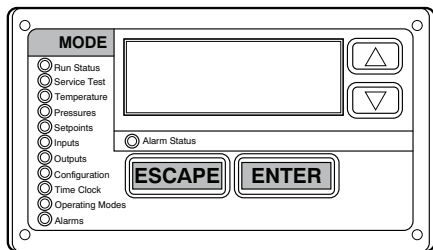

Fig. 1 - ComfortLink Controller
Step 1 — Turn off the unit demand for cooling or heating by using the Scrolling Marquee (see Fig. 1), located in the unit's control box. See Fig. 5 for control box location.